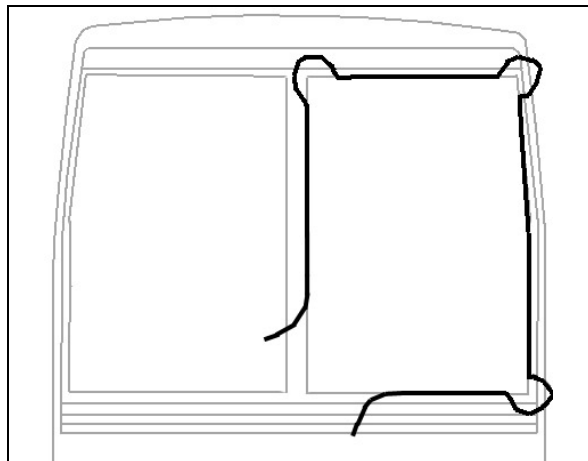

FIGURE 74: WINDSHIELD INSTALLATION USING ROPE
- Insert rope into rubber extrusion leaving enough length at each corner to make a loop. Spray soapy water onto rope and rubber extrusion (Fig. 74).